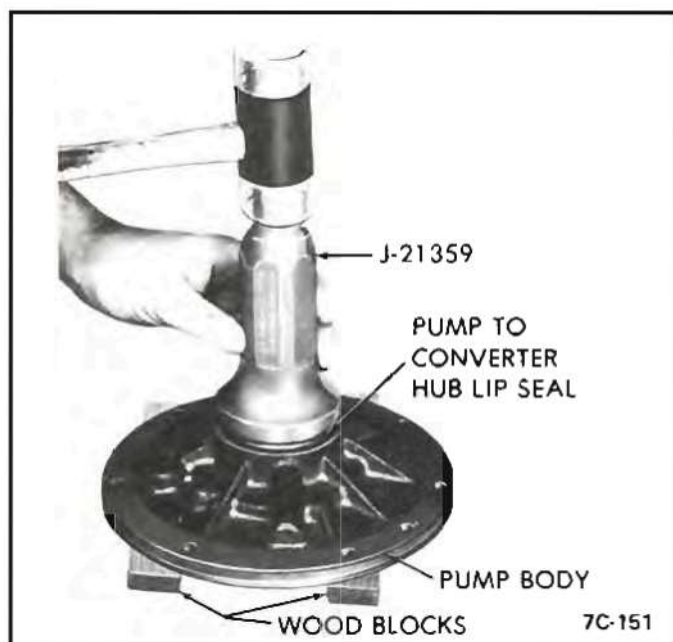

Figure 51 Converter Seal Installation
10. Place pump on wood blocks so surface finish in not damaged and install pump to converter hub lip seal using Seal Driver J-21359. *See Figure 51.*